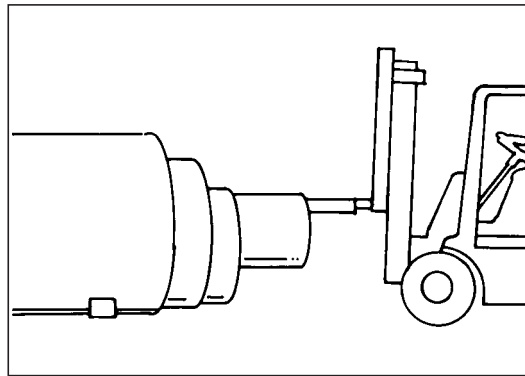

Figure 2.7
4. Package removal and denesting of the inside pipe(s) is best accomplished at a denesting station. Typically, this consists of three or four fixed cradles to fit the outside diameter of the largest pipe of the bundle. Inside pipes, starting with the smallest size, may always be removed by lifting slightly with an inserted padded boom to suspend the section and carefully move it out of the bundle without touching the other pipes (Figure 2.7).